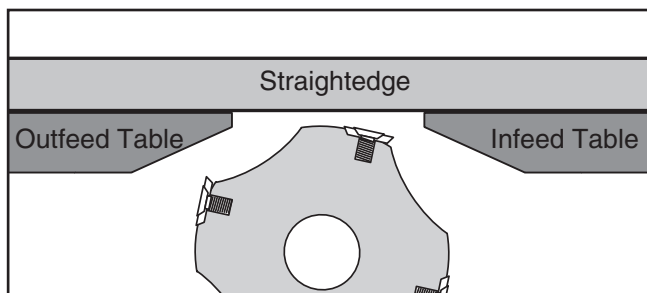

Figure 48. Infeed and outfeed tables set evenly.
4. Place the straightedge halfway across the infeed table and halfway over the outfeed table, and adjust the infeed table even with the outfeed table, as shown in **Figure 48**.
7. Place the straightedge halfway across the infeed table and halfway over the outfeed table, then adjust the infeed table even with the outfeed table, as shown in **Figure 48**.